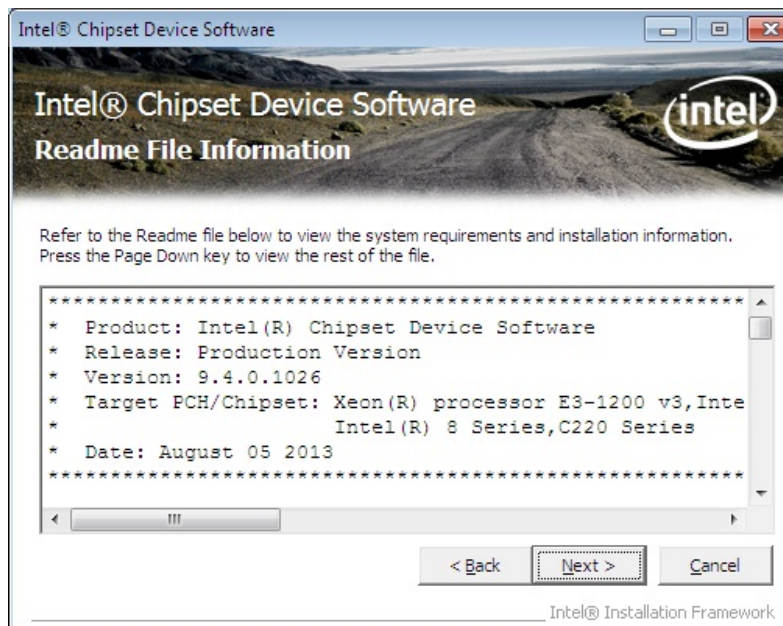

Figure 6-4: Chipset Driver Read Me File
Step 9: The Read Me file in Figure 6-4 appears.